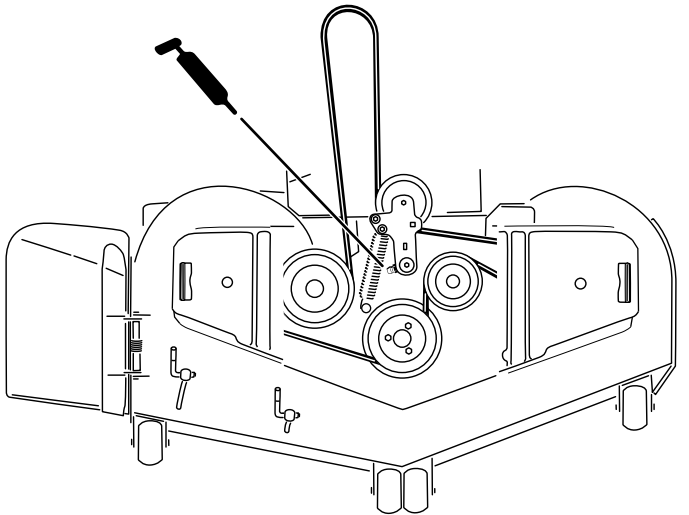

Figure 39
3. Grease the mower deck idler-pulley pivot until grease comes out the bottom (Figure 39).